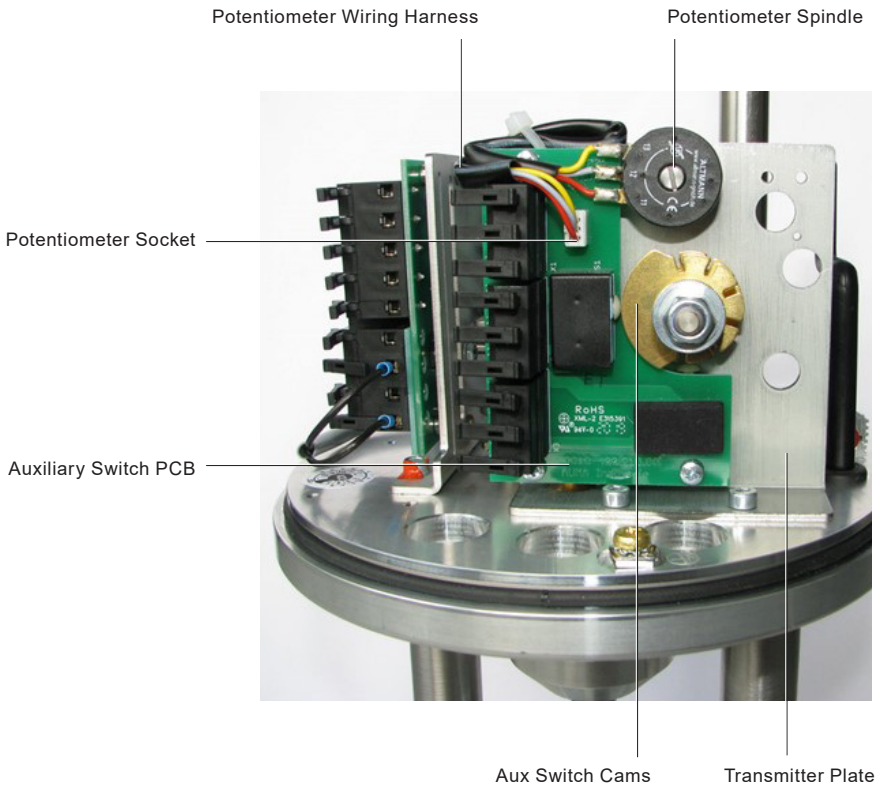

Fig. 12 Potentiometer Installation and Adjustment (1-6 kN [225-1,349 lbf])
- Refer to Figure 12 Potentiometer Installation and Adjustment (1-6 kN [225-1,349 lbf]) for product orientation
- Connect the wiring harness to the potentiometer socket as detailed in Figure 12 Potentiometer Installation and Adjustment (1-6 kN [225-1,349 lbf])